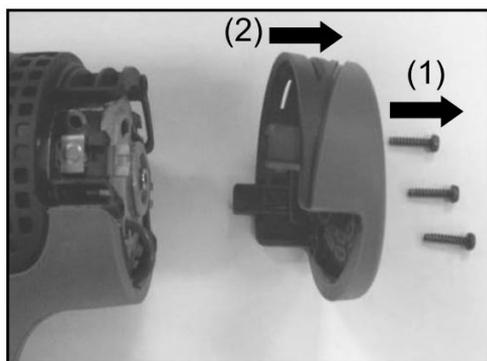

Fig.10
- Use T10 size bit to loosen the back cover screws and remove back cover by hand. (Fig.10)